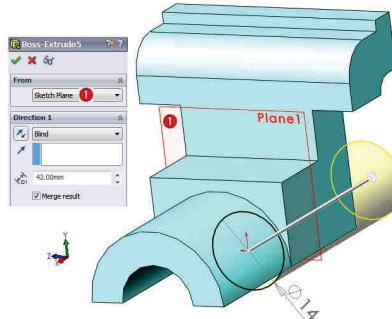

Fig. 2.29
**13 Trasare cerc φ14:** Comanda **Sketch** – Fig. 2.29 – plan ①.
**14 Extrudare cerc φ14:** comanda **Extruded Boss/Base** - Fig. 2.29 – Blind /  $\Delta_{d1}$  42 mm distanță /  .
**13 Sketching of the φ14 circle:** The **Sketch** command – Fig. 2.29 – plane ①.
**14 Extrusion of the φ14 circle:** the **Extruded Boss/Base** command - Fig. 2.29 – Blind /  $\Delta_{d1}$  42 mm distance /  .